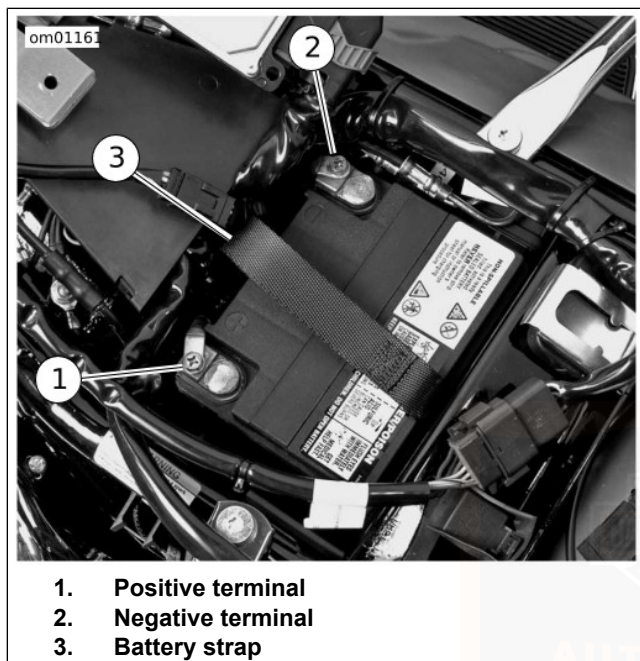

Figure 73. Battery Compartment: Touring Models
5. See Figure 73. Unthread bolt and remove battery negative cable (black) from battery negative (-) terminal.
1. See Figure 73. Place the fully charged battery into compartment with terminals toward the front of the vehicle. Lay strap handle over top of battery.